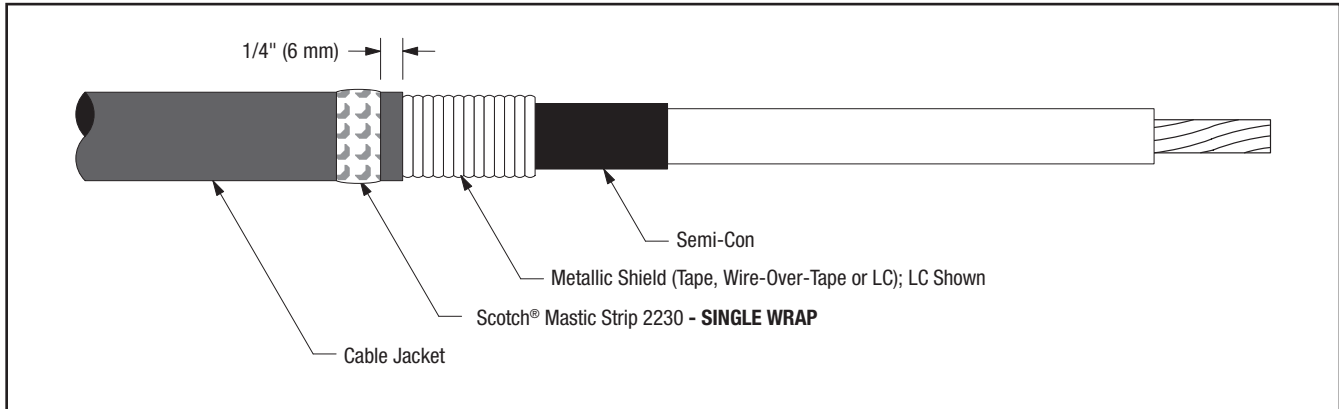

Figure 4
- 4.1 Select a Scotch® Mastic Strip 2230 from kit and remove white release liners. Using light tension, apply a **SINGLE WRAP** of mastic around the cable jacket 1/4" (6 mm) from cut edge (Figure 4). If a Scotch® Mastic Strip 2230 was previously applied under 12 gauge, or larger, shield wires on Wire-Over-Tape shield cable, then apply this SINGLE WRAP of Scotch® Mastic Strip 2230 directly over the first mastic wrap and over the shield wires. Cut off excess.